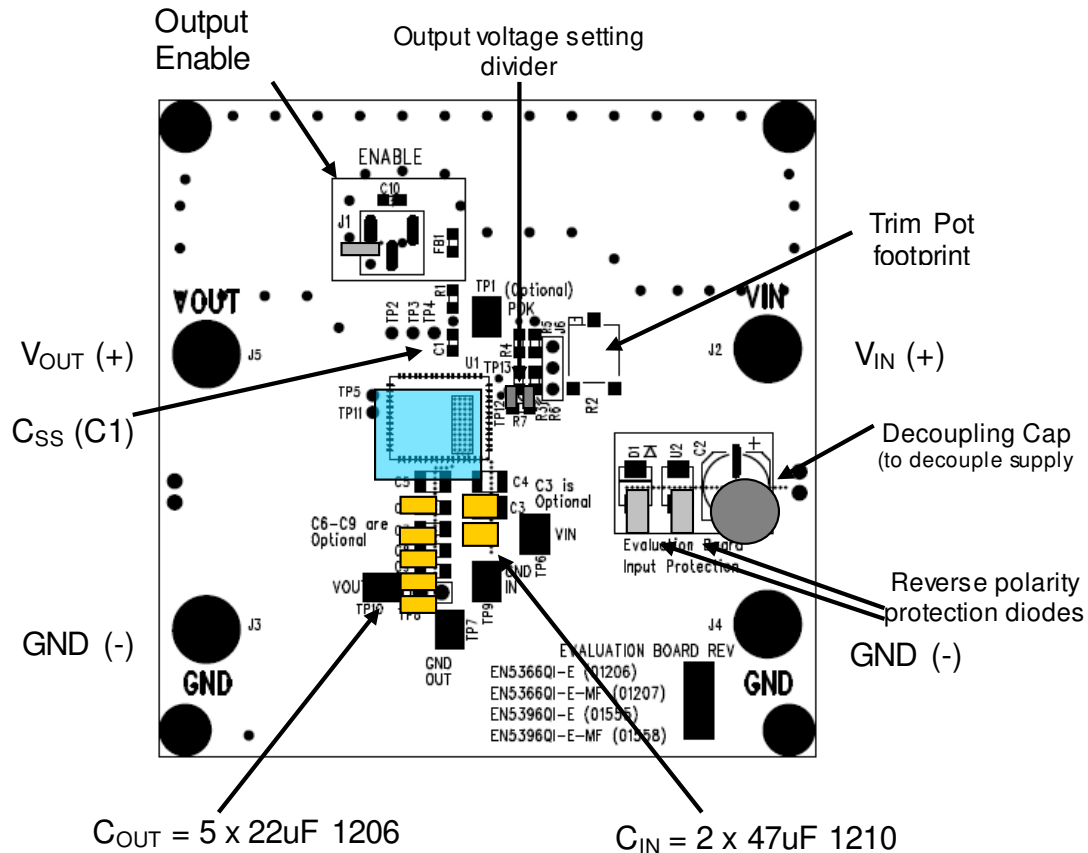

Figure 1. Evaluation Board Layout.
Figure 1 shows a top view of the evaluation board.
STEP 2: Connect Power Supply to the input power connectors, VIN (+) and GND (-) as indicated in Figure 1 and set the supply to the desired voltage.
STEP 3: Connect the load to the output connectors VOUT (+) and GND (-), as indicated in Figure 1.